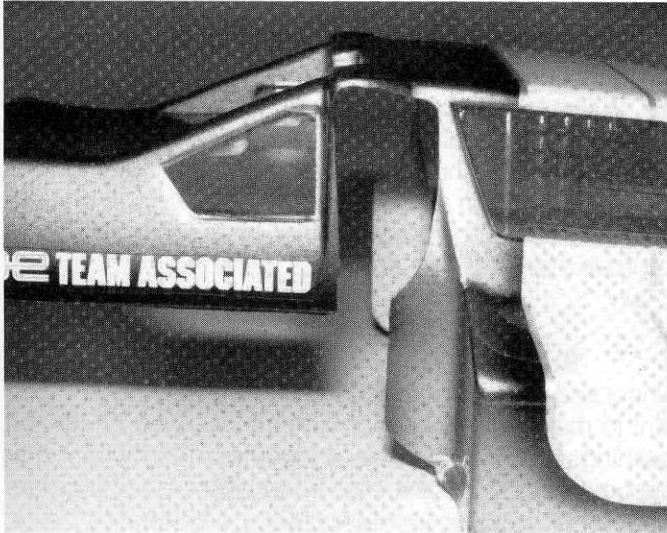

Fig. 160
□ **Fig. 160** The rear of the body must be trimmed like this to clear the shocks. NOTE: Save the trimmings to use for testing paint.